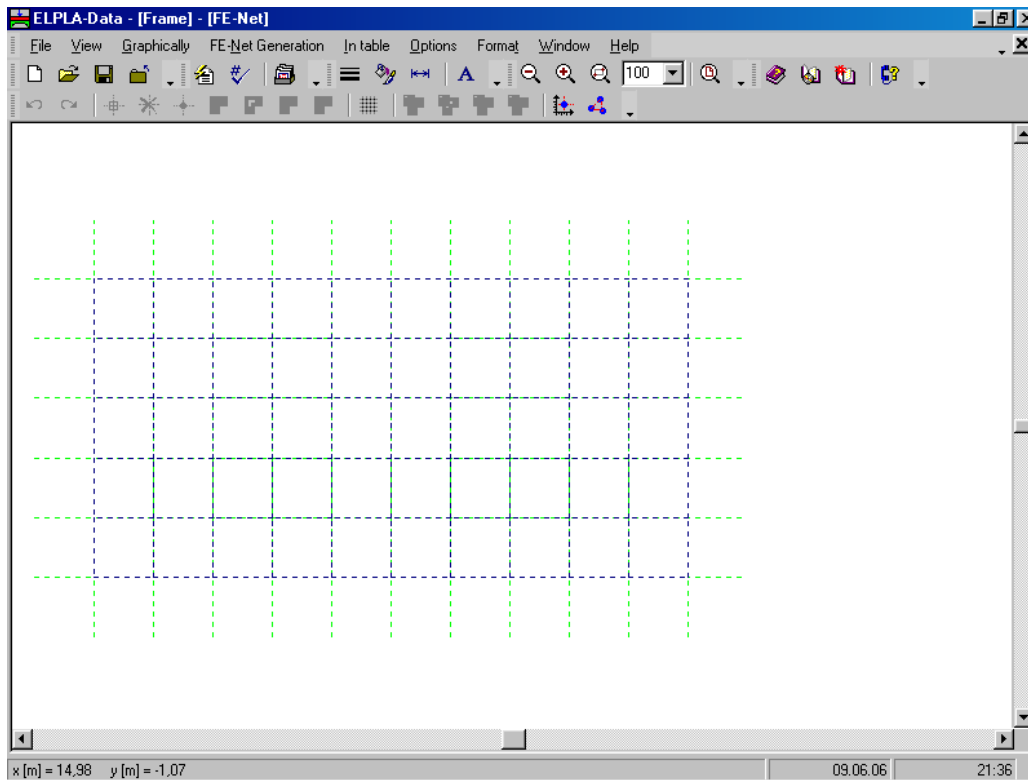

Figure 7-10 Imaginary net of a rectangular area on the screen
ELPLA will generate an imaginary net for a rectangular area of 10 [m] length and 5 [m] width with square elements of 1.0 [m] each side. The following embedded program in Figure 7-10 appears with the generated imaginary net.
- Choose "Save FE-Net" command from "File" menu in Figure 7-10 to save the data of the imaginary net
- Choose "Close FE-Net" command from "File" menu in Figure 7-10 to close "FE-Net" embedded program and to return to the main window of *ELPLA-Data*